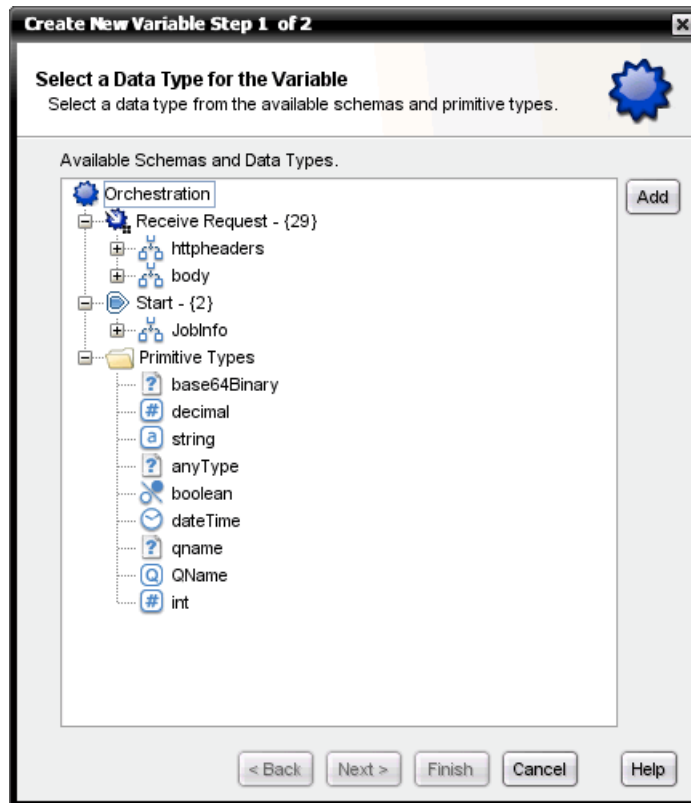

Figure 3-53 The create new variable window
1. Right-click in the Variables section of the Variables toolbox tab, and click **Create New Variable**. A window opens that shows the currently available data types, as shown in Figure 3-53 on page 120.